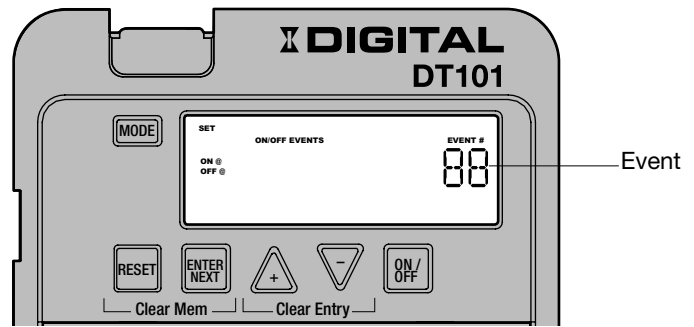

FIG. 9 Setting On/Off Events
1. If necessary, press the **MODE** button repeatedly until the words SET ON/OFF EVENTS and EVENT 01 (or next available event number) appear on the display. See FIG. 9.